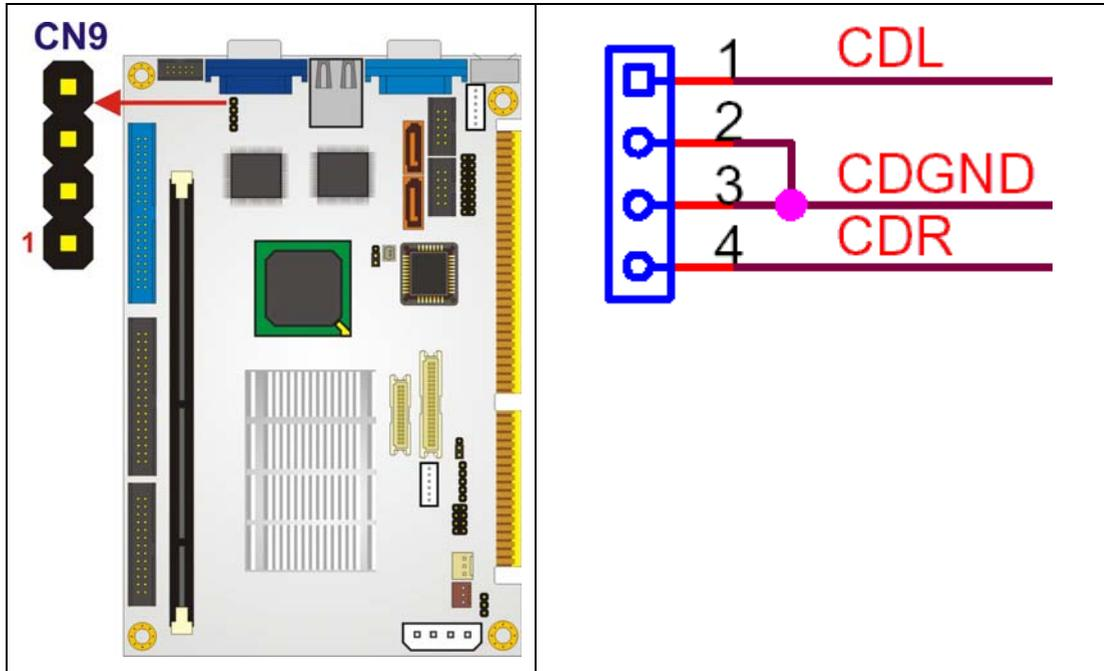

Figure 4-5: Audio CD In Connector Pinouts (4-pin)
- CN Location:** See Figure 4-5